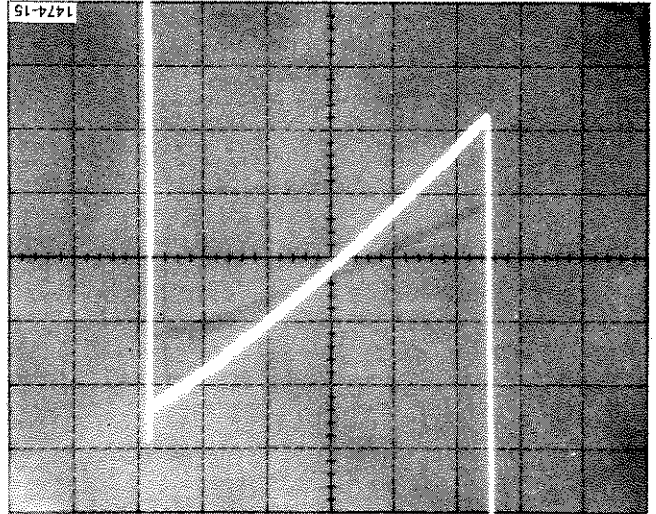

Fig. 2-14. Illustration of Op Amp gain calculation.
**Measuring Op Amp Gain.** Set the VERT UNITS/DIV for an on-screen display of three divisions or greater. Set the SWEEP FREQUENCY for acceptably small phase shift looping. Select an appropriate change in horizontal deflection and measure the corresponding vertical deflection (see Fig. 2-14). The operational amplifier gain is the change in output voltage (horizontal) divided by the corresponding change in input voltage (vertical). The gain is inversely proportional to the slope of the trace; the flatter the trace, the higher the gain. See the Applications section for additional gain information.